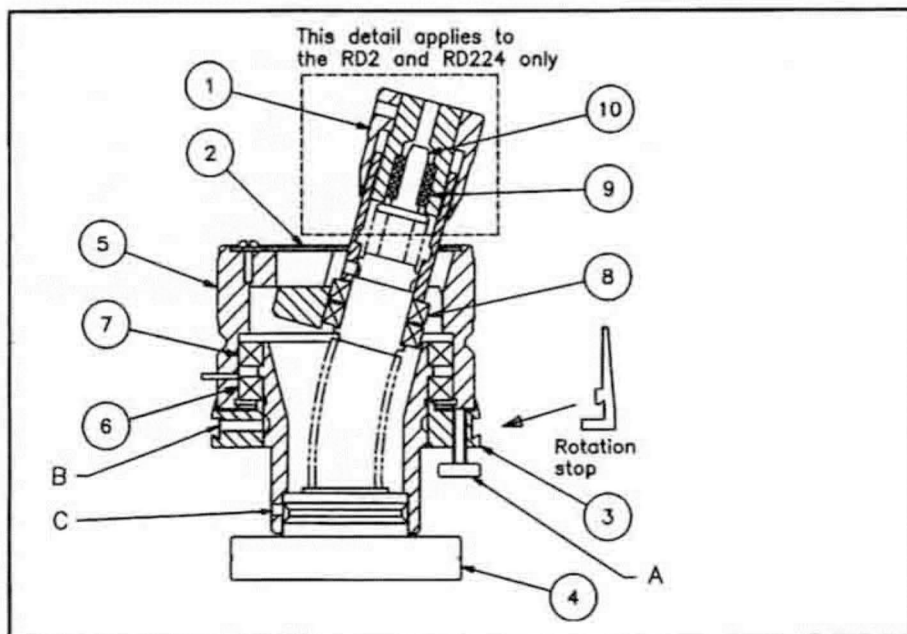

Figure 6 -
(Please refer to figure 6).
- Slacken the 3 radial set screws (marked C in figure 6) by two complete turns and gently withdraw the handwheel assembly from the flange unit.
- the wobble bearing retainer set screw on the RD 1, RD2 and RD224 drives. This must only be tightened sufficiently to grip and minimise the radial clearance in the wobble bearings (item 8 in figure 6) which are located under the cover plate. This should only be done when the rotary drive is under vacuum. Do not over tighten.
The bearings within the vacuum enclosure are treated with a solid film lubricant which is sealed in for life. The bearings that are external to the vacuum enclosure can be lubricated in-situ as follows: Numbers in () refer to the items indicated in figure 6.